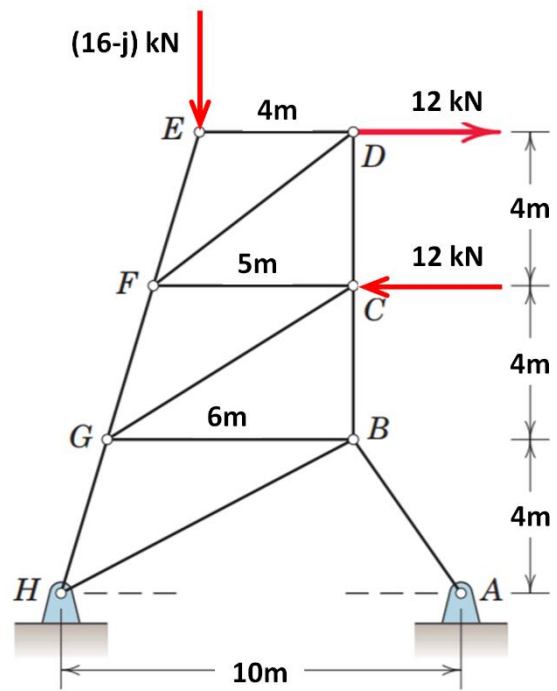

Fig. 3
3. Solve for force in the member CG of the truss as shown in Fig. 3 by Method of Section.